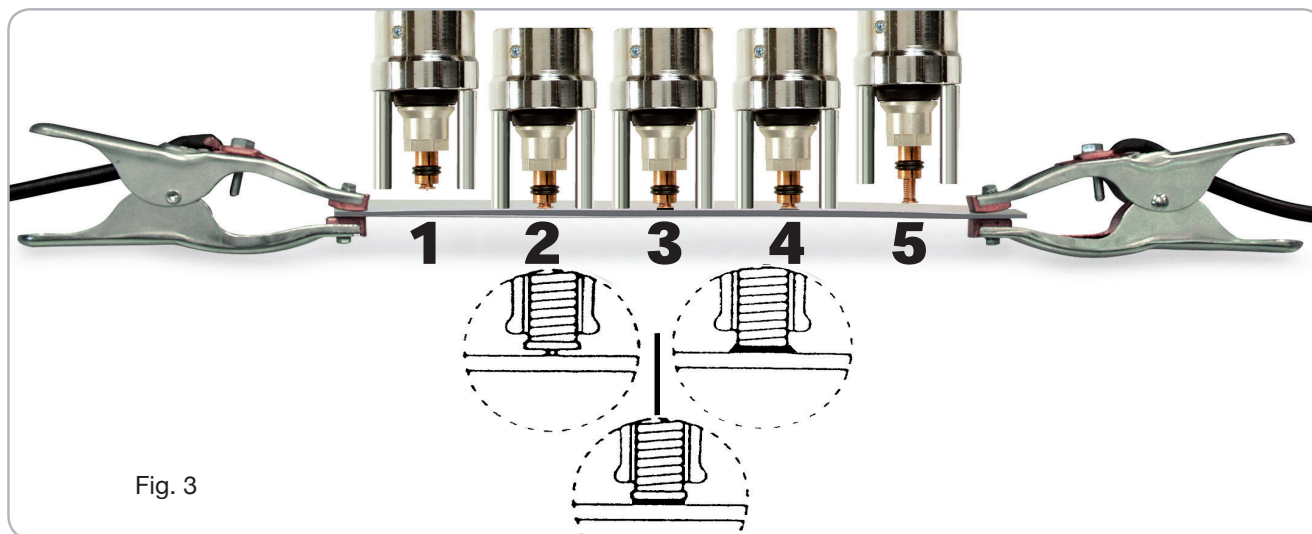

Fig. 3
**4 PRINCIPE DE FONCTIONNEMENT DE LA SOUDURE DE GOUJONS FILETES AVEC POINTE D'AMORCAGE (Fig. 3)**